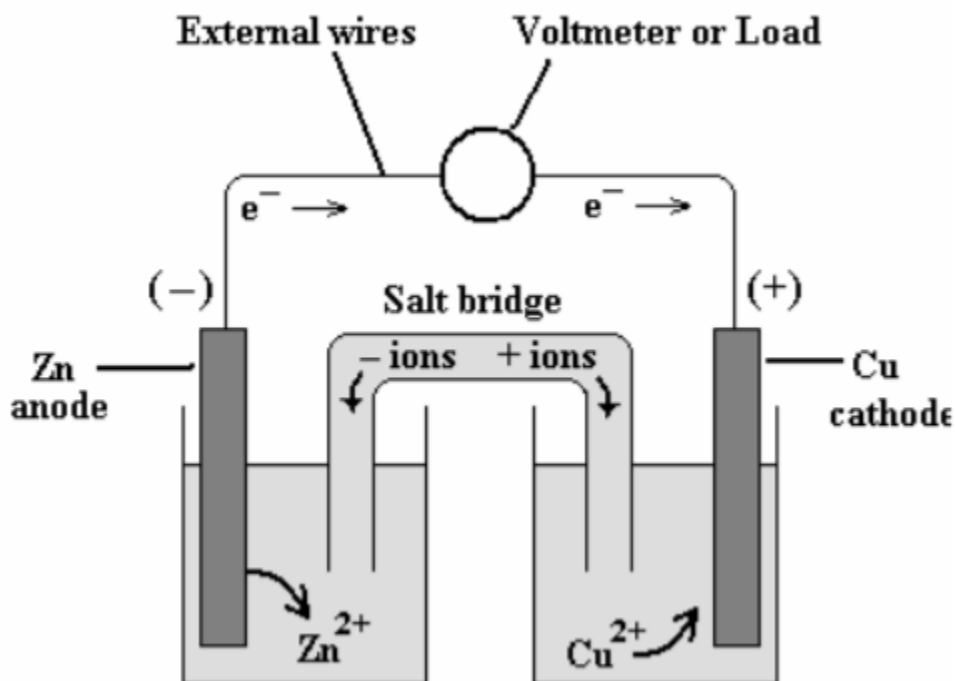

Figure 1: Galvanic cell based on the redox reaction in equation (3).
A *galvanic cell* is a device in which a redox reaction (such as the one in equation (3)), spontaneously occurs and produces an electric current. In order for the transfer of electrons in a redox reaction to produce this electrical current and be useful, the electrons are made to pass through an external wire, instead of being directly transferred between the aqueous ions. The design of a galvanic cell (shown in Figure 1) allows this to occur.
Based on the values for the standard reduction potentials for the two half-cells in equation (3), the standard cell potential, E_{cell}° , for the galvanic cell in Figure 1 would be: